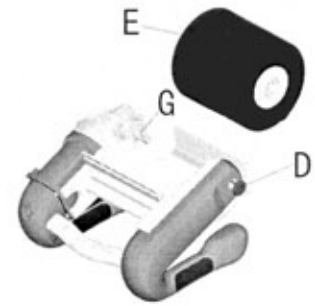

Figure 2
9) INSTRUCTIONS FOR PUTTING INTO USE (Figures 2 and 3)
- b) Pad Installation - Invert the power tool and allow to rest on handles. Pull out Pad Release Knob (D) and rotate Knob ¼ turn to lock open. Install the Pad with the cross pattern drive end aligned with the drive blades. Align the hole in the opposite end of the pad with the Pad Release Axle. Pull out Pad Release Axle Knob (D), rotate Knob ¼ turn and allow the Pad Release Axle to insert into the bearing on the Pad. Ensure that the Release Knob Axle is fully inserted into the Pad bearing.